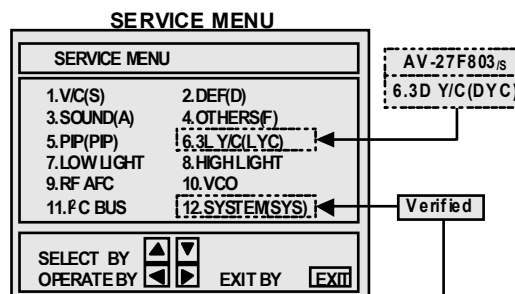

Fig.1
1. As shown in Fig. 1, removing the **4** screws marked (C) , then remove the speaker.
1. Remove the **2** screws marked (D) as shown in Fig. 1.
1. Remove the **2** screws marked (E) as shown in Fig. 1.
- 3) The SERVICE MENU screen will be displayed as shown Fig. 1.
Verify what to set in the SERVICE MENU, and set whatever is necessary(Fig.1).